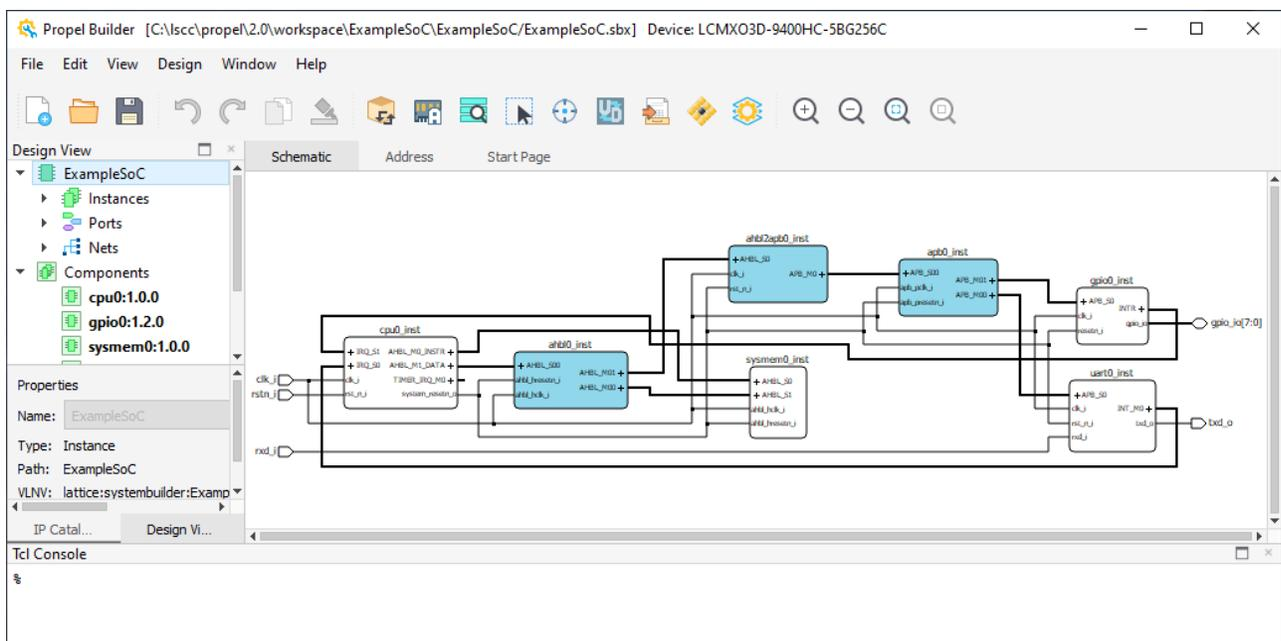

Figure 3.10. Propel Builder Window
The SoC design project is created in workbench, and its design is opened and displayed in Propel Builder (Figure 3.10).
3. SoC Design is opened and displayed in Propel Builder (Figure 3.10).